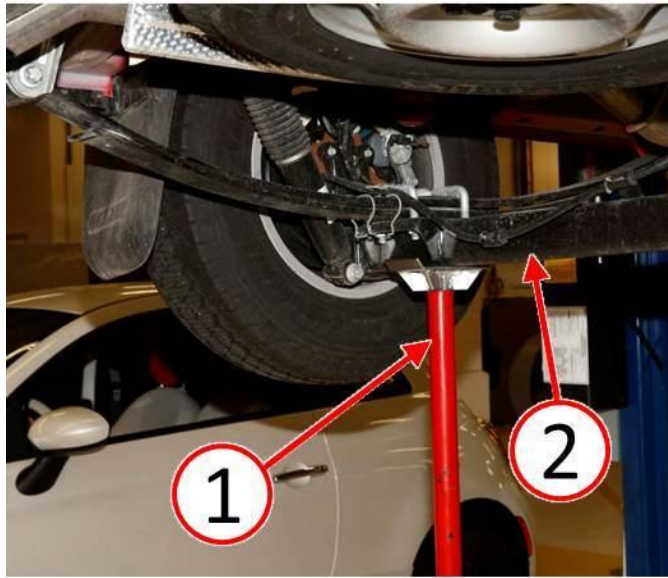

Fig. 3 Support Axle
- 4. Support the rear axle (2) with an appropriate stand (1) to remove tension from the spring shackle before removing the spring shackle (Fig. 3).